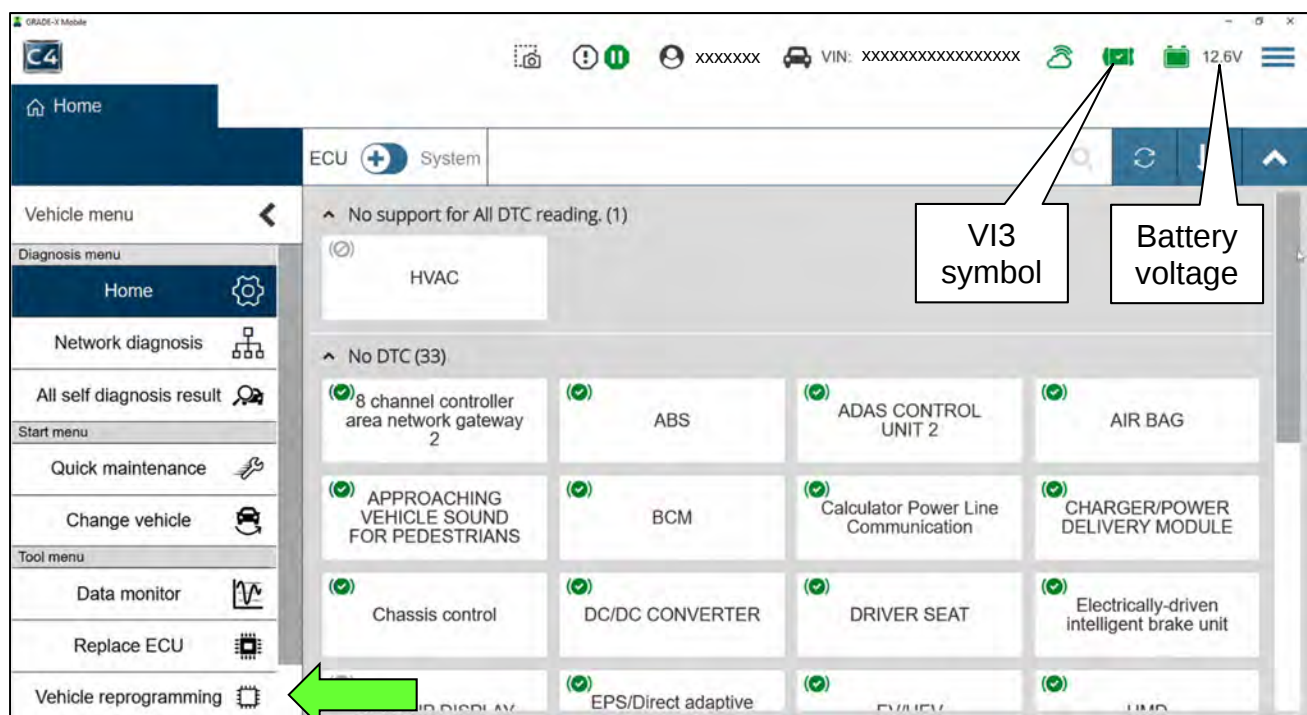

Figure 1
- Green VI3 symbol with check mark in the middle (Figure 1).
13. Ensure that the vehicle's 12 volt battery voltage stays between 12-13.5V (Figure 1).